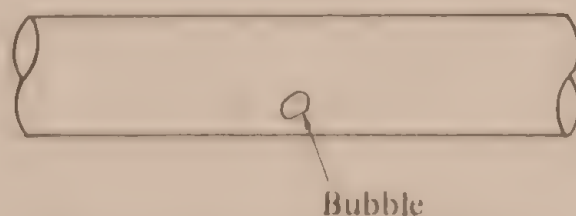

Fig. 21 Appearance of Bubble
- (1) After fusion splicing, if bubbles such as in Fig. 21 are seen on the monitor 38, the steps described in Table 7 should be taken.